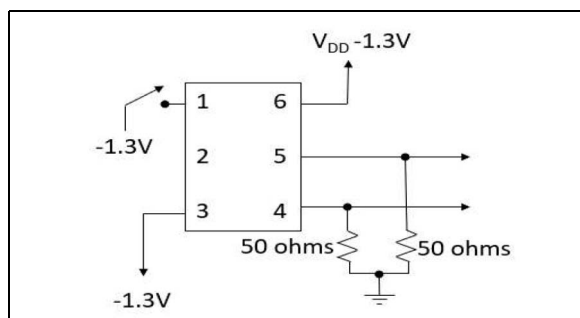
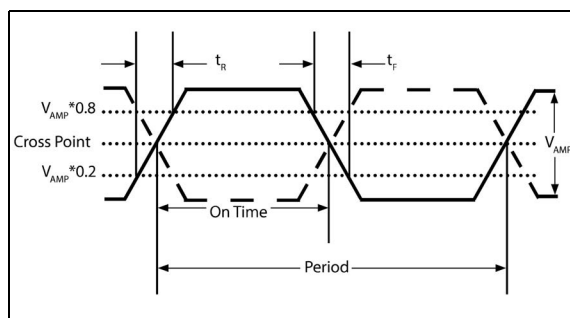
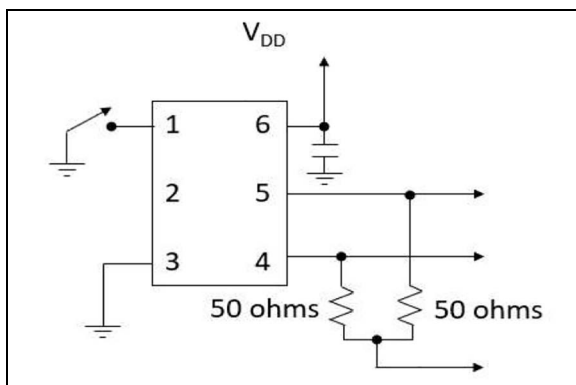

FIGURE 1-1: Test Circuit.
FIGURE 1-2: Output Rise/Fall Time.
FIGURE 1-3: LVDS Test Circuit.
- 3:** Figure 1-1 defines the test circuit and Figure 1-2 defines these parameters.
- Note 3:** Figure 1-1 defines the test circuit and Figure 1-2 defines these parameters.
3: Figure 1-3 defines the test circuit and Figure 1-2 defines these parameters.
- Note 3:** Figure 1-3 defines the test circuit and Figure 1-2 defines these parameters.